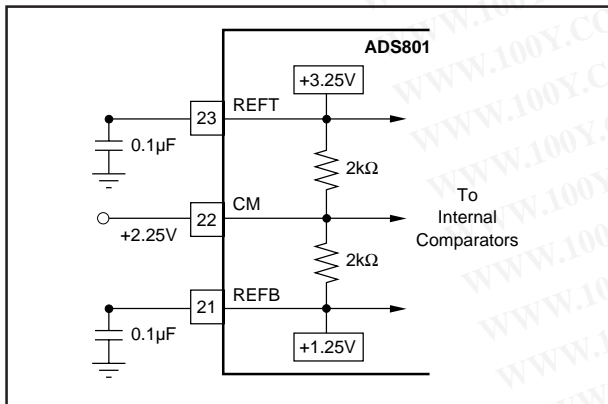

FIGURE 3. Internal Reference Structure.
The analog input of the ADS801 can be configured in various ways and driven with different circuits, depending on the nature of the signal and the level of performance desired. The ADS801 has an internal reference that sets the full scale input range of the A/D. The differential input range has each input centered around the common-mode of +2.25V, with each of the two inputs having a full scale range of +1.25V to +3.25V. Since each input is 2V peak-to-peak and 180° out of phase with the other, a 4V differential input signal to the quantizer results. As shown in Figure 3, the positive full scale (REFT) and the negative full scale (REFB) are brought out for external bypassing. In addition, the common-mode voltage (CM) may be used as a reference to provide the appropriate offset for the driving circuitry. However, care must be taken not to appreciably load this reference node. For more information regarding external references, single-ended input, and ADS801 drive circuits, refer to the applications section.